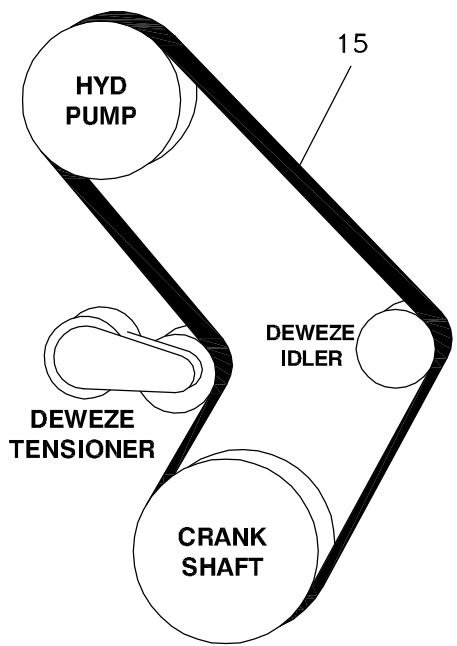

FIG. 3
17. It is necessary to remove two of the chambers of the airbox (18) for clearance as shown in Fig. 3. Cut each off flush at its base where it attaches to main tube. Apply a heat-resistant adhesive to the 1.75" recessed button plug (27) and insert firmly into the larger hole. Apply a heat-resistant adhesive to the 1.50" recessed button plug (24) and insert firmly into the smaller hole.